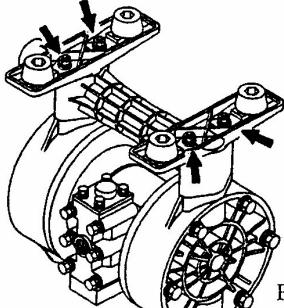

Fig.4.7
- Turn over the main body assembly. [Fig. 4.7]
- Pull out the tie rod, and remove the base and “in” manifold. [Fig. 4.7]